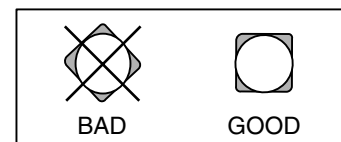

Figure 22
9. Insert spindle into lockbody on inside of door. (Figure 22)